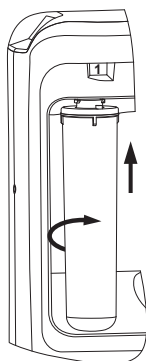

Fig. 9a
- The cartridges are inserted into the corresponding collectors until they stop and turned clockwise, as shown in Fig. 9a, until a click.
- Insert a new cartridge into the corresponding collector until it stops and turn clockwise, as shown in Fig. 9a, until a click.